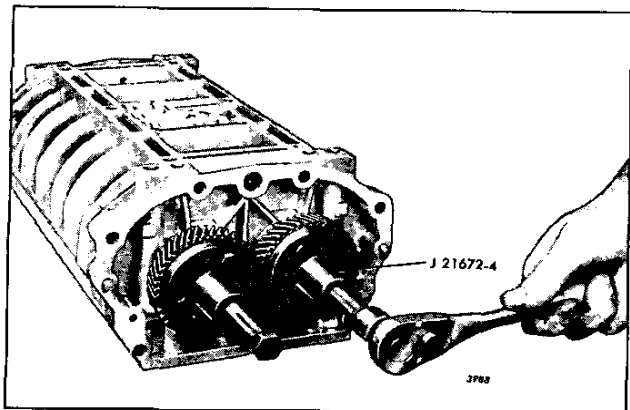
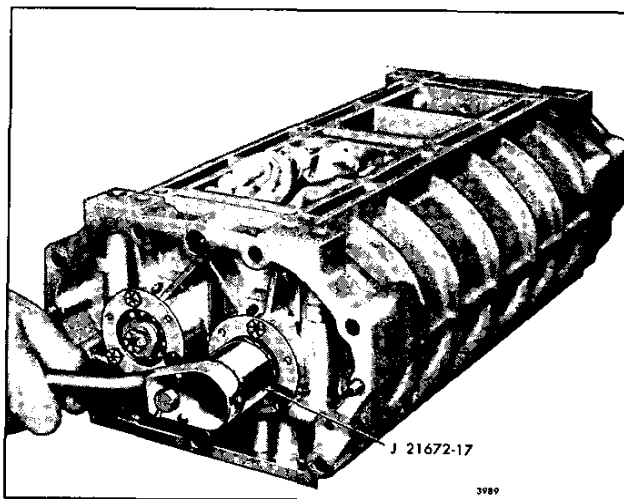
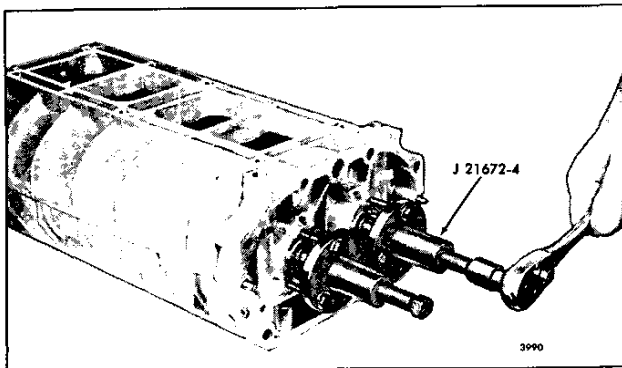

Fig. 5 – Removing Rotor Gears Using Tool J 21672-4
Fig. 6 – Removing Rotor Bearing Retaining Nut Using Tool J 21672-17
Fig. 7 - Removing Blower Rotors from Front End Plate Ball Bearings (Former Blower) Using Tool J 21672-4
3. Remove the blower rotor gears with pullers J 21672-7 (Fig. 5). Both rotor gears must be pulled at the same time as follows:
- b. With the shop towels between the blower rotors and housing to prevent them from turning, turn the puller screws uniformly clockwise and pull the gears from the rotor shafts as shown in Fig. 5.
5. Remove the bolts securing the rotor shaft bearing retainers (71) to the rear end plate, then remove the retainers.
6. Remove the bolt and special washer (80) securing the ball bearing (former blower) or roller bearing (current blower) on the right-hand helix rotor shaft at the front end of the blower.
7. Bend the tang of the bearing retainer nut lock washer (81) up out of the notch in the bearing lock nut (82). Then remove the bearing lock nut with spanner wrench J 21672-17 as shown in Fig. 6.
9. Remove the socket head bolt (50) securing the blower rear end plate to the blower housing. Tap each end of the rear end plate with a plastic hammer to loosen it from the blower housing, then remove the end plate and bearings from the rotor shafts.
- a. Back the center screw out of both pullers J 21672-7, then attach the pullers to the blower front end plate with six 1/4"-20 x 1-1/2" or longer bolts as shown in Fig. 7.